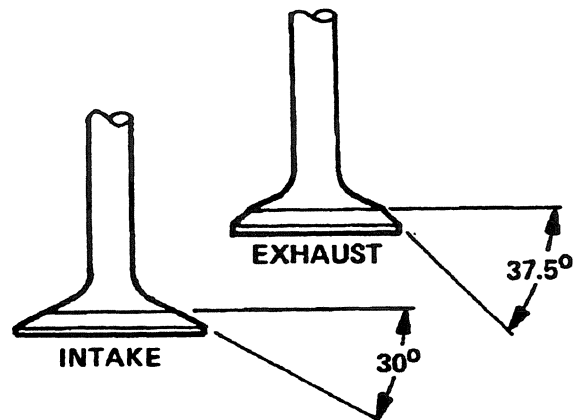

Figure 3.28. Valve Face Angles
- b. Maintain valve face angles as shown, Figure 3.28.